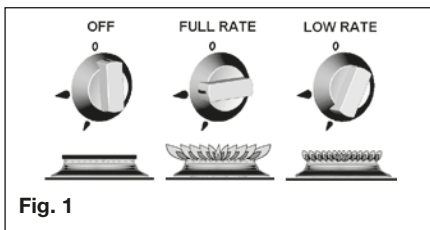

Fig. 1
3. To light: Push in the control knob and turn to full rate – see Fig.1. Hold a lighted match or taper to the burner and push the control knob in and hold. It is necessary to hold the knob depressed after the burner has ignited for approximately 10 - 15 seconds, to allow the thermocouple probe to reach temperature, before releasing the knob. Should the flame go out when the knob is released, the procedure should be repeated holding the knob depressed for slightly longer.
2. To light: Open door, push in the control knob and turn to full rate – see Fig 1 (page 142). Hold a lighted match or taper to the burner and push the control knob in and hold. The burner should ignite and the control knob should be held in for 10 -15 seconds before release.